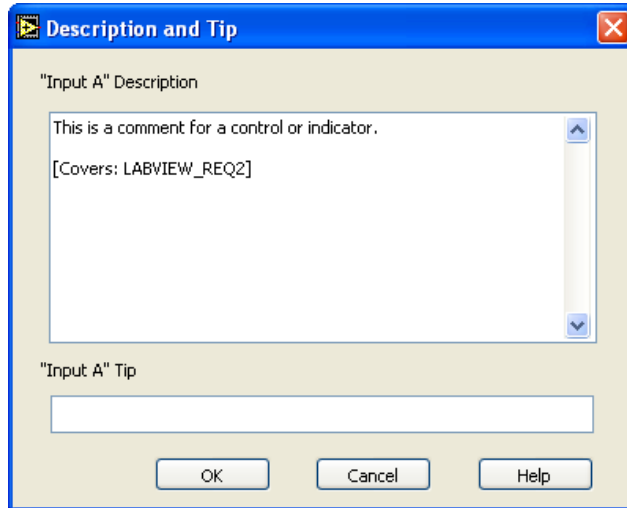

Figure 9-3. LabVIEW Description and Tip Dialog Box
9. Add [Covers: LABVIEW_REQ2] to the Description control as shown in Figure 9-3.